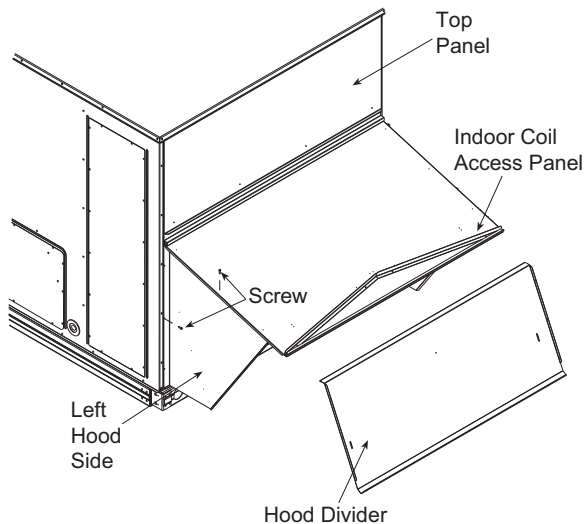

Fig. 12 — Economizer Hood Construction
2. Swing out indoor coil access panel and insert the hood sides under the panel (hood top). Be careful not to lift the panel too far, as it might fall out. Use the screws provided to attach the hood sides to the hood top. Use screws provided to attach the hood sides to the unit. See Fig. 12.
4. Insert the hood divider between the hood sides. See Fig. 12 and 13. Secure hood divider with 2 screws on each hood side. The hood divider is also used as the bottom filter rack for the aluminum filter.